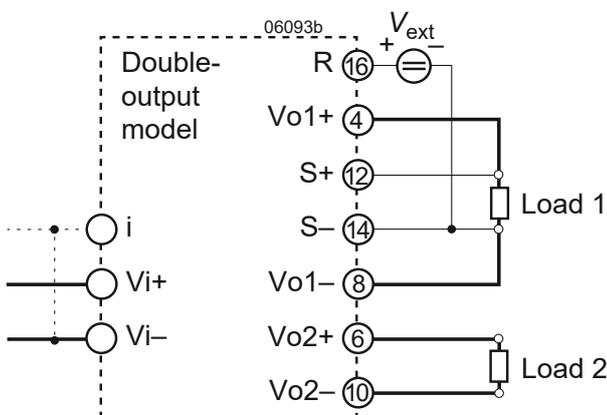

Fig. 20 Output adjust using an external control voltage V_{ext} .
a) Adjustment by means of an external control voltage V_{ext} between R (pin 16) and S– (pin 14); see fig. 20.